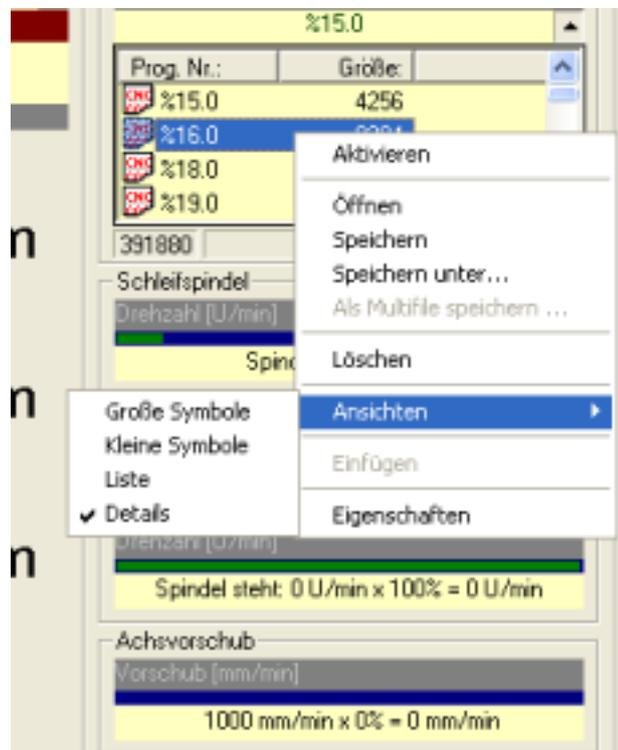

Fig. 5a
- Views Makes possible a selection of the views of the pictured NC Programmes in accordance with fig. 5a.